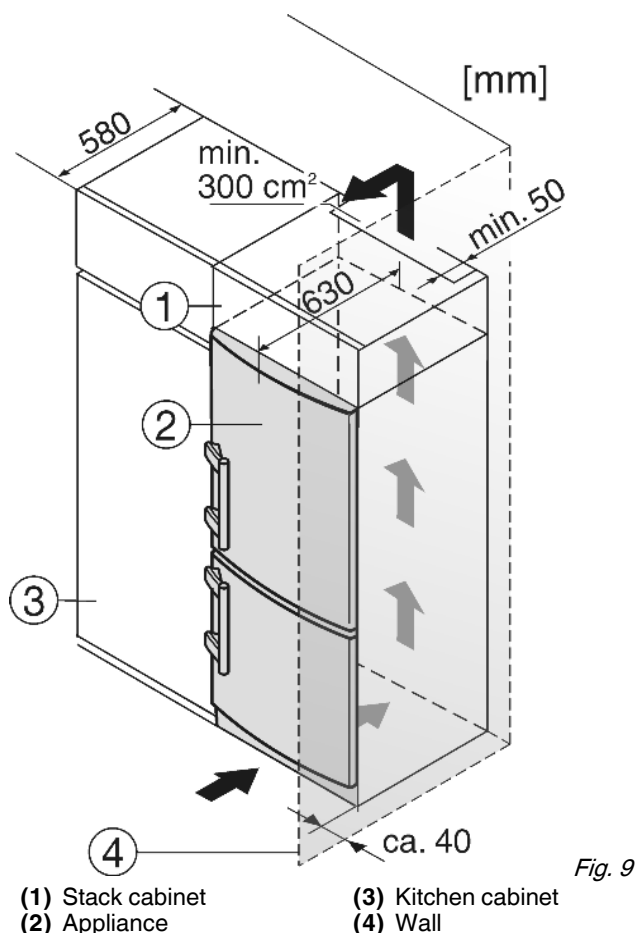

Fig. 9
The appliance can be inserted into a row of kitchen units. To match the appliance Fig. 9 (2) to the height of the row of units, a suitable stack cabinet Fig. 9 (1) can be fitted above the appliance.
When inserting the appliance into a row of kitchen units (max. depth 580 mm), the appliance can be installed directly next to the kitchen unit Fig. 9 (3). The appliance door projects relative to the front of the kitchen unit by 34 mm at the side and by 50 mm in the middle of the appliance. It can be opened and closed perfectly as a result.
If the appliance is installed with the hinges next to a wall Fig. 9 (4), the distance between appliance and wall has to be at least 40 mm. This corresponds to the projection of the handle when the door is open.